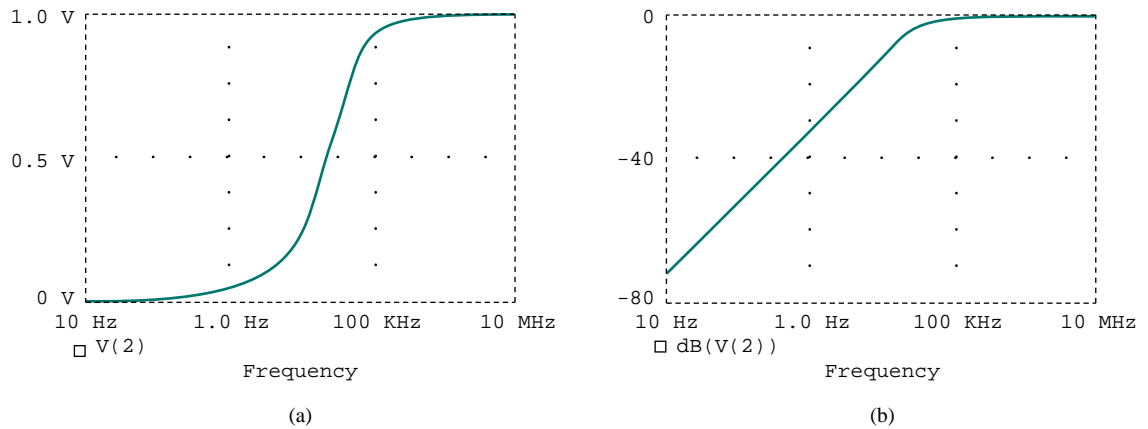

Figure D.47 Result of Practice Prob. D.7: (a) linear plot, (b) Bode plot.
**Answer:** See the plots in Fig. D.47.